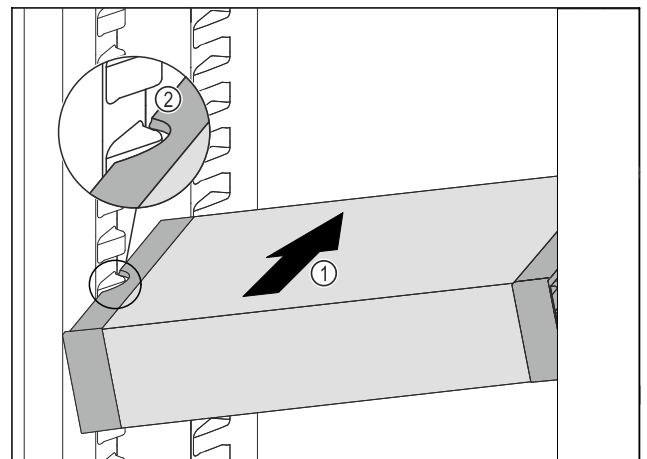

Fig. 191
- ▶ Insert the VarioSafe into the fridge section at an angle Fig. 191 (1) until the recesses in the side Fig. 191 (2) of the VarioSafe are at the level of the support rib in the fridge section.